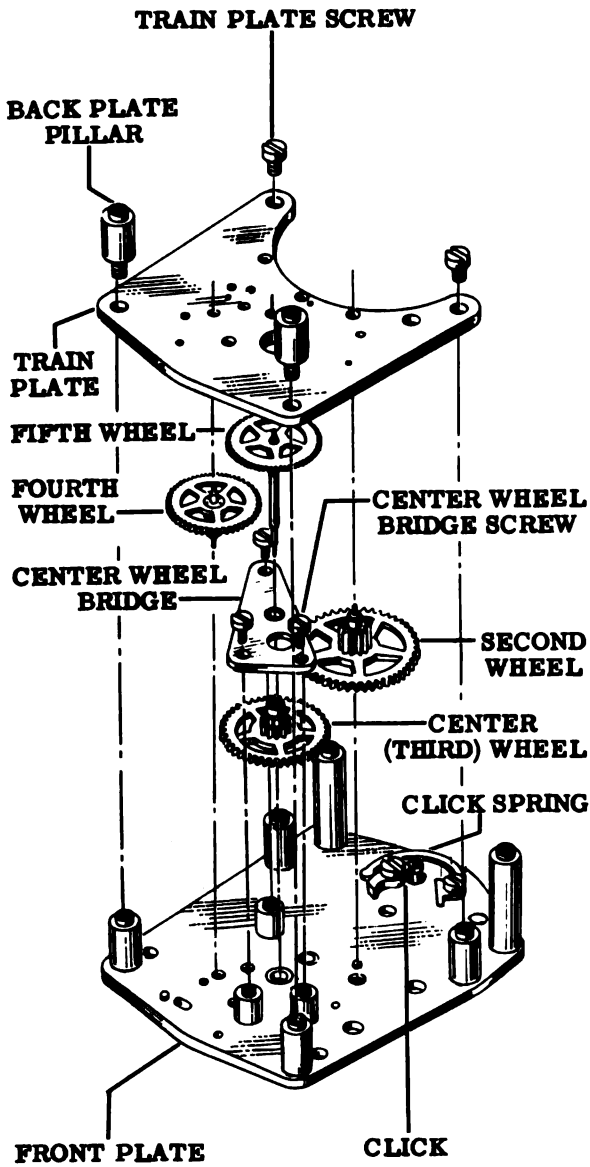

Figure 48—5165 Mechanical Clock Movement
14. Lift out the fifth, the fourth and the second wheels. See Fig. 48.